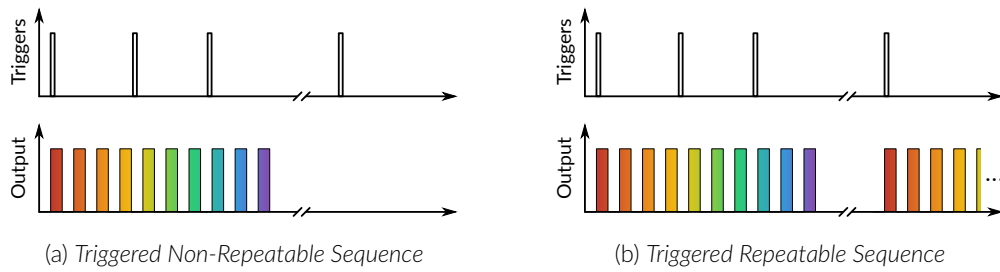

Figure 11.36: Uninterrupted Sequence Mode
- **Uninterrupted:** This mode activates the channel sequence when an input greater than 3.3 V is detected by the BNC input. Following input pulses will be ignored while the sequence is running (Fig. 11.36). When the **Repeatable sequence** checkbox is checked, the sequence will restart with the arrival of the first input pulse after the sequence has finished (Fig. 11.36b). This mode is available for *Triggered* pulse only.